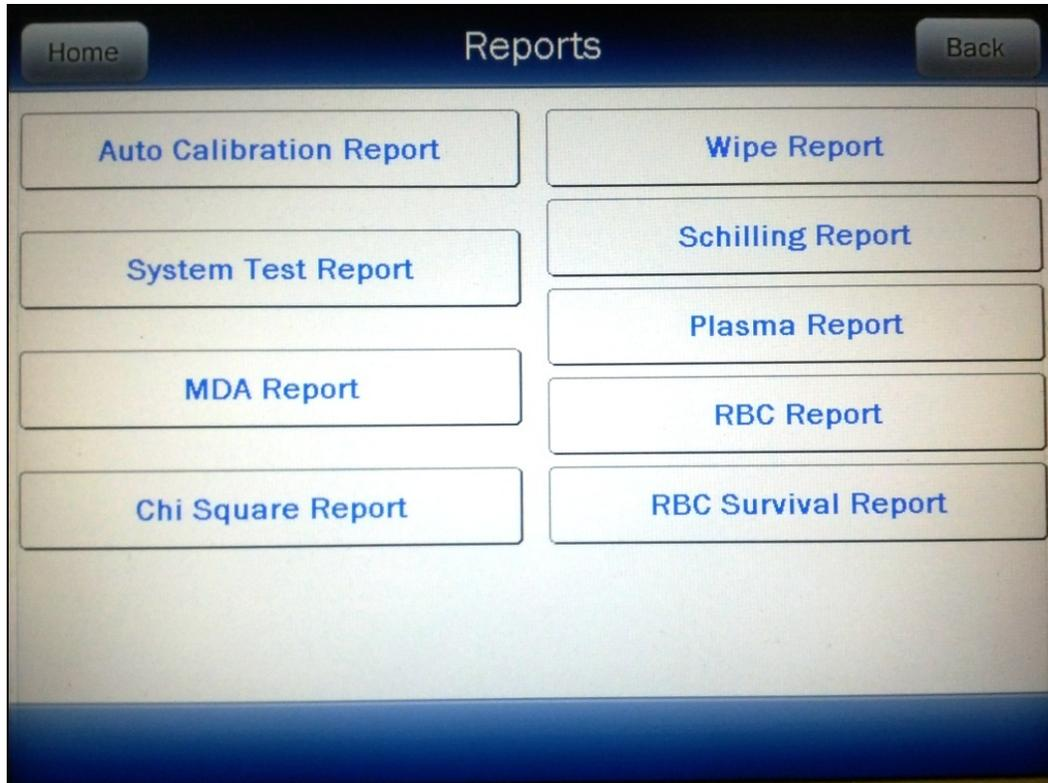
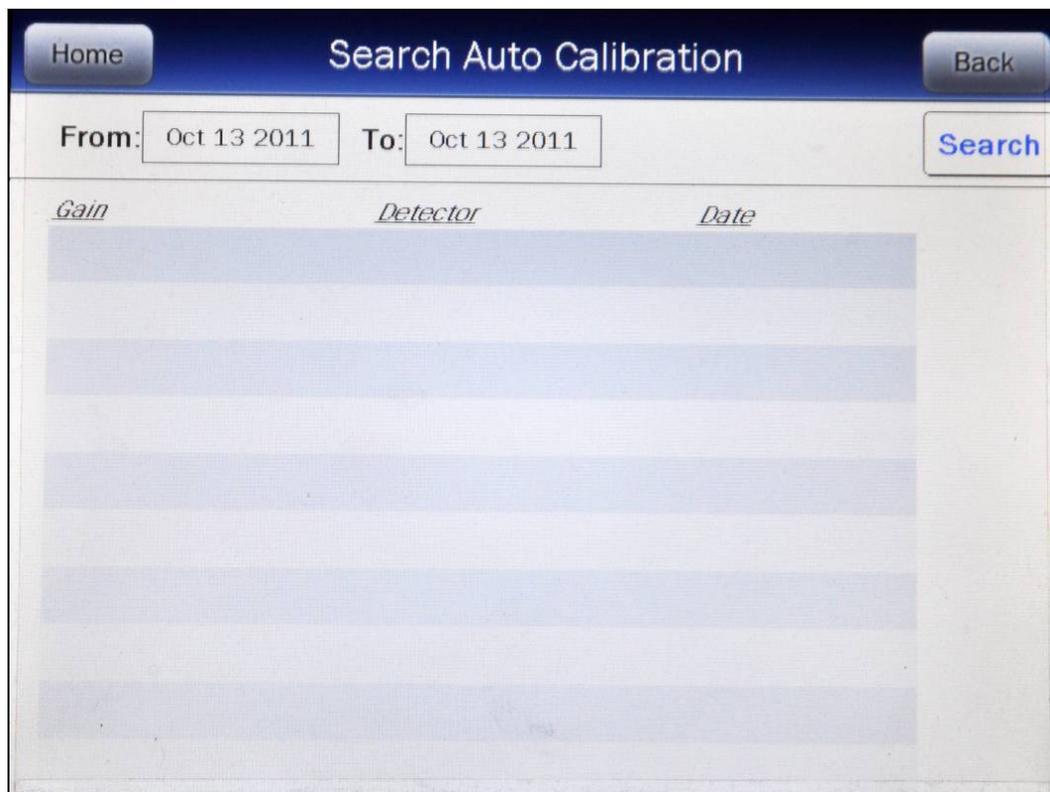

Figure 11-2 Reports Screen
Figure 11-3 Auto Calibration Search Screen
From Figure 11-1 Well Counter Main Screen, touch the **REPORTS** button. Figure 11-2 Reports Screen will appear.
To exit Figure 11-2 Reports Screen, touch the **HOME** or **BACK** button. Figure 11-1 Well Counter Main Screen will re-appear.
From Figure 11-2 Reports Screen, touch the **AUTO CALIBRATION REPORT** button. Figure 11-3 Auto Calibration Search Screen will appear.
To exit Figure 11-3 Auto Calibration Search Screen,
- touch the **BACK** button – Figure 11-2 Reports Screen will re-appear or
Touch the **ACCEPT** button to accept the set date or the **CANCEL** button to cancel any changes. Figure 11-3 Auto Calibration Search Screen will re-appear showing the set date.
From Figure 11-2 Reports Screen, touch the **SYSTEM TEST REPORT** button. The Search System Tests Screen will appear and be similar to that shown in Figure 11-3 Auto Calibration Search Screen.
From Figure 11-2 Reports Screen, touch the **MDA REPORT** button. The Search MDA Tests Screen will appear and be similar to that shown in Figure 11-3 Auto Calibration Search Screen.